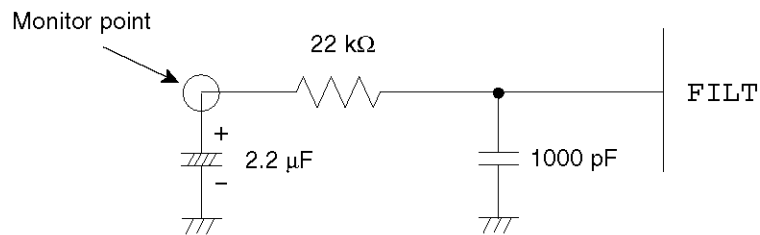

Figure 10 FILT Recommended Circuit
- Adjust the voltage of monitor point in Figure 10 to $1/2 V_{DD} \pm 10\%$ by the LC oscillation constant 'L' or 'C' to lock the PLL circuit.